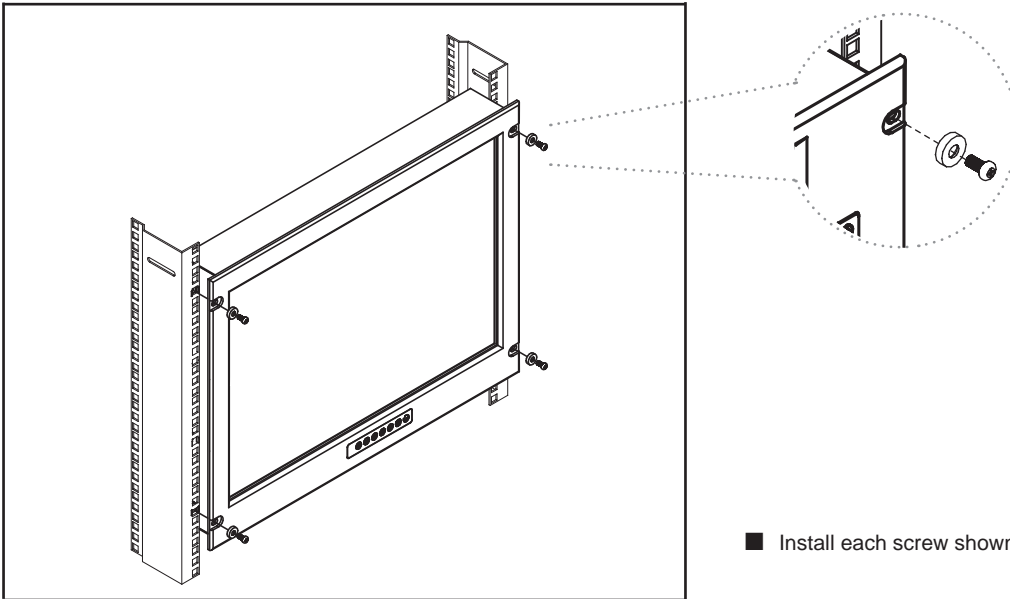

Figure 3.
■ Install each screw shown in Figure 3.